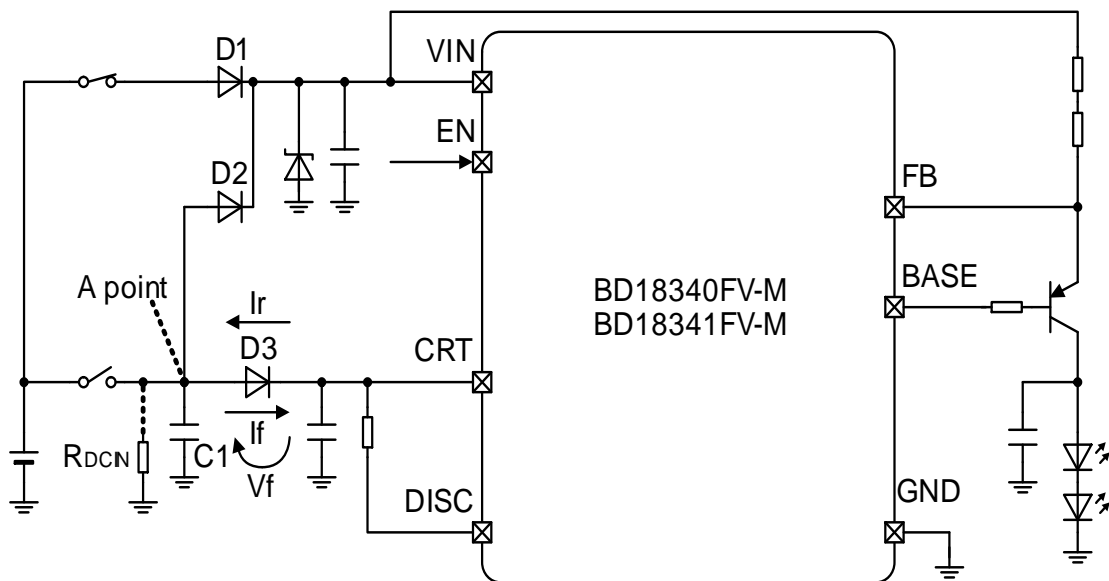

Figure 17. how reverse protection diode affects the CRT terminal rise/fall time
- ① During the PWM dimming operation mode, the A-point on Figure.17 becomes Hi-Z
- ② Reverse current I_r of D2 and D3 goes to the A-point